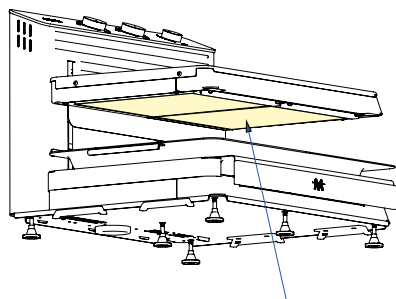

Figure 25
- MiiTi 06 models have 2 filament protection glasses (Figure 25).